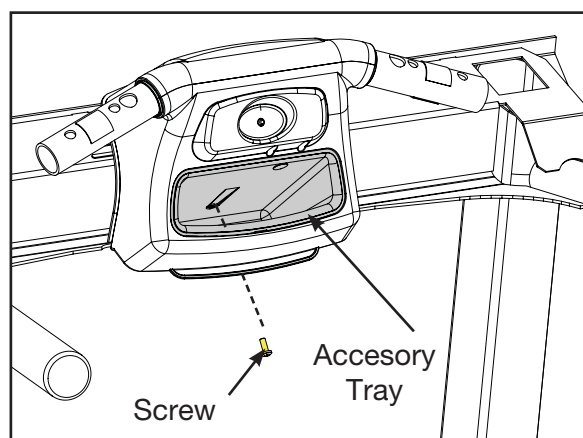

Figure 26
A. Using a Phillips head screwdriver remove the screw securing the accesory tray to the lower handle cover. See Figure 26.
- A. Using a Philips head screwdriver install the screw securing the accessory tray to the lower handle cover. See Figure 26.